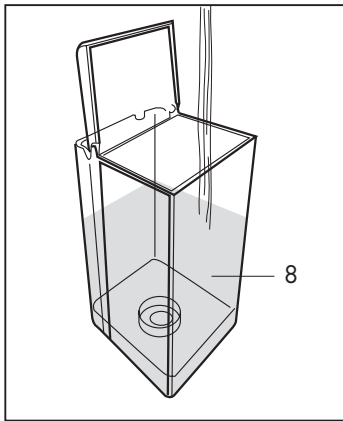

Fig. 2
- Fill the tank with water (max. 2,5 litres). **(Fig.2)**